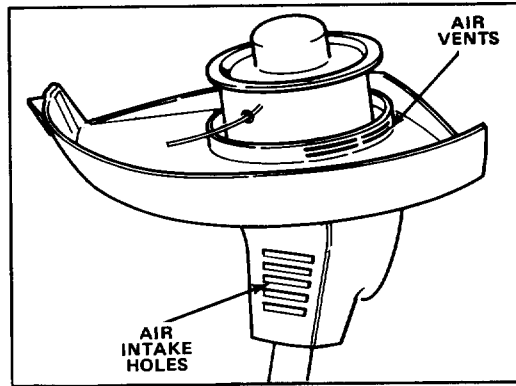

Figure 22
4. The air exhaust vent is located on underside of shield (Fig. 22). Scrape vent clean regularly.
5. Wipe debris away from air intake holes in motor housing (Fig. 22).